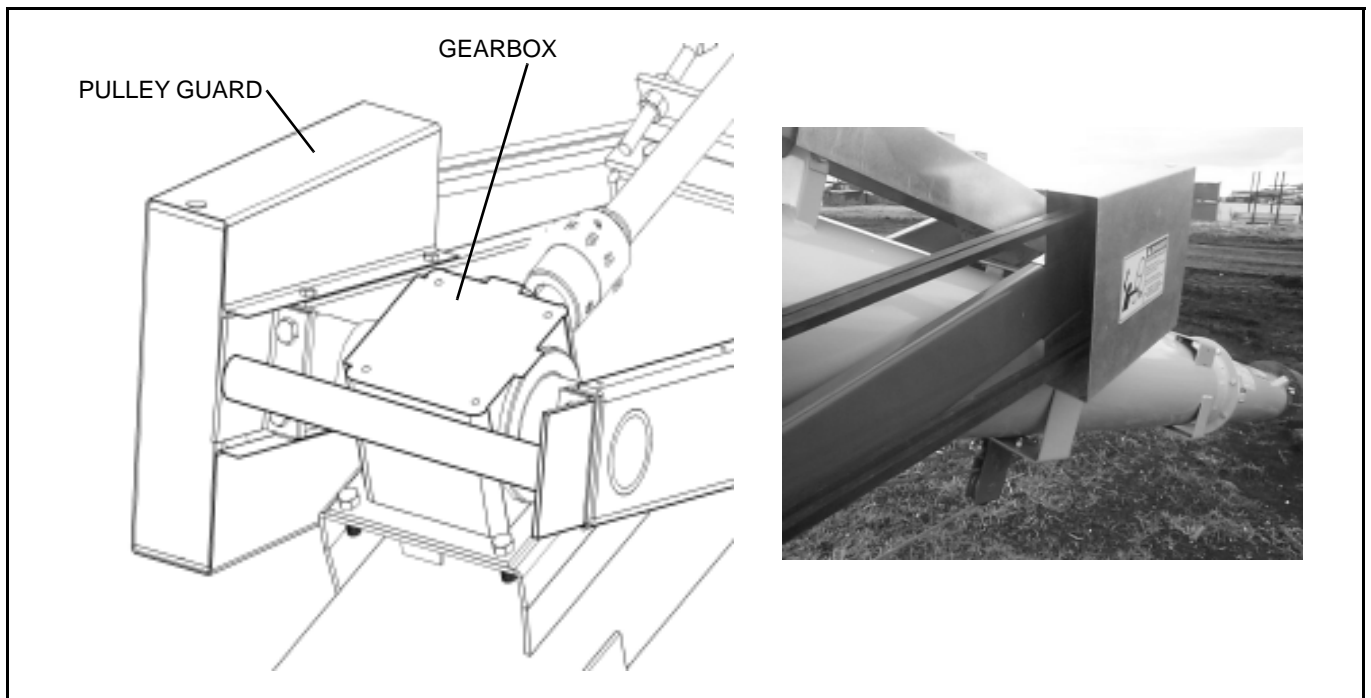

Figure 3.23 Gearbox Pulley Guard
11. Install gearbox pulley guard and secure with four 1/4" x 1/2" flange head bolts (Figure 3.23).